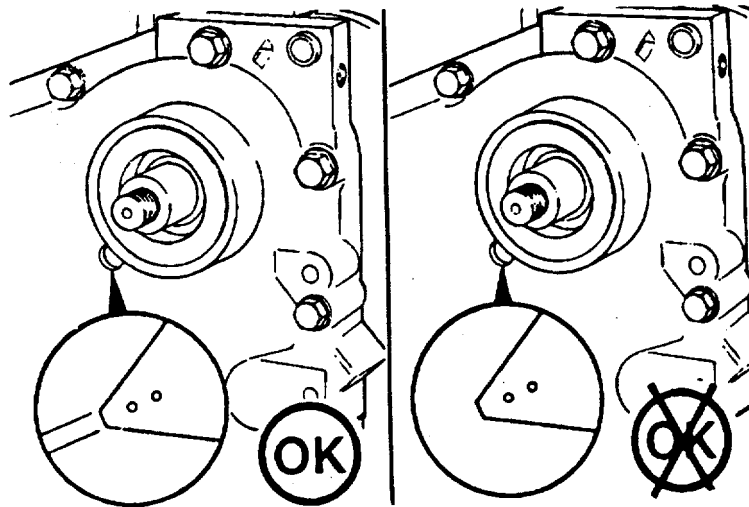

FIGURE 3-43. Gear Alignment.
- e. Check to make sure the timing marks on the camshaft gear and the accessory drive gear are aligned with each other (FIGURE 3-43). If only one timing mark is visible through inspection hole, rotate crankshaft one complete revolution in direction of rotation and recheck.
- f. Check the alignment of the camshaft gear and the accessory drive gear timing marks through the inspection hole in the gear cover (FIGURE 3-43).